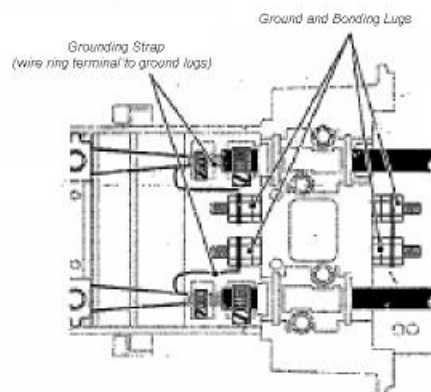

Figure 8a - Grounding and Bonding Terminal Lugs
13.01 Terminate the ring terminal of the bond wires (previously installed) on each of the cables to a common ground terminal on the inside of the center section. See **Figure 8a**. Tighten the ground terminal hex nuts securely.